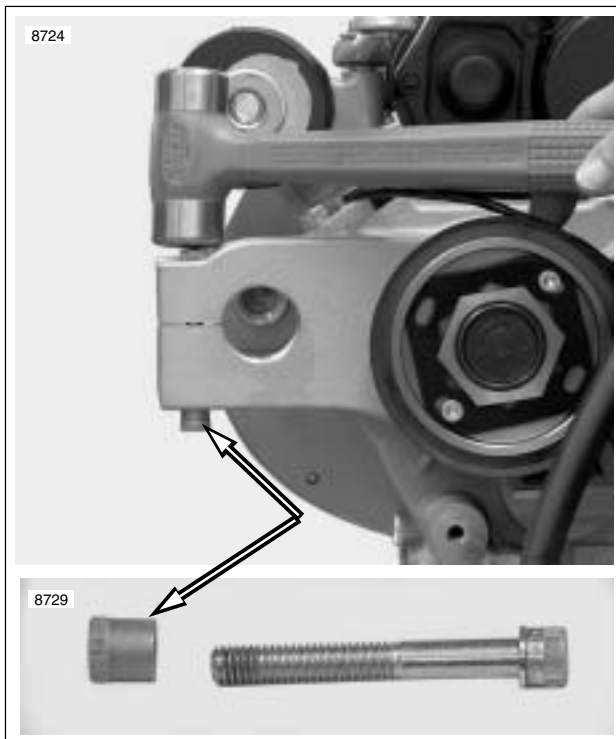

Figure 3-29. Removing Threaded Insert
- See Figure 3-29. Swingarm pivot shaft pinch bolt threaded insert.